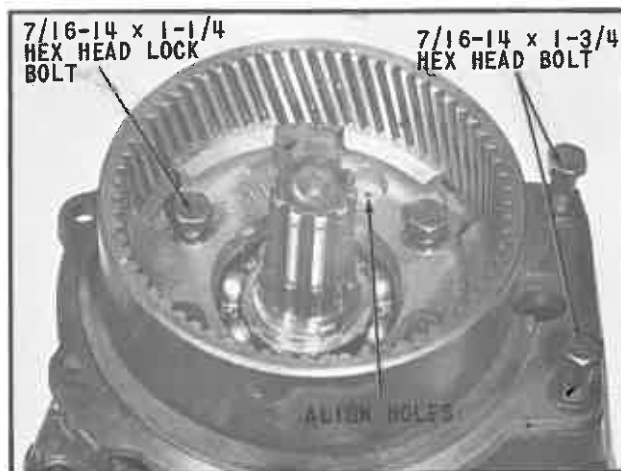

Fig. 23 Bolting Reduction Unit Adapter to Transmission Case
5. Remove the six nylock bolts and lock washers and stationary gear plate and ring gear assembly as shown in (Fig. 23).
15. Install the parts assembled in steps 10 and 11, locating hub of the stationary gear plate in bearing pilot bore of the reduction unit adapter (Fig. 23).
16. Install the six 7/16-14 x 1-1/4 nylock bolts and 7/16 lock washers (Fig. 23). Install the two 7/16-14 x 1-3/4 hex head bolts to insure alignment of all bolt holes. Tighten evenly to specified torque the nylock bolts and then remove the two 7/16-14 x 1-3/4 hex head bolts.